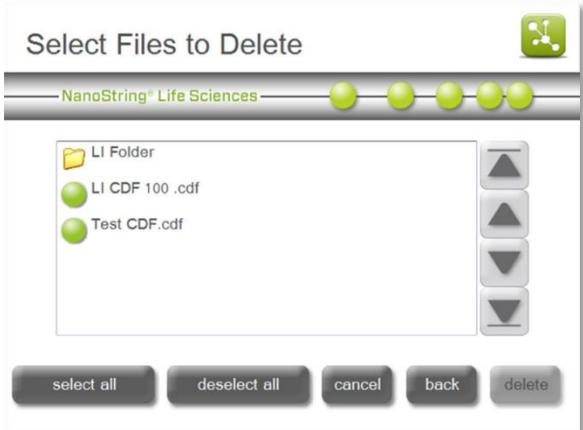

Figure 157: The ‘Select Files to Delete’ screen.
1. To cleanup Cartridge Definition Files, press **CDF** on the ‘Disk Cleanup’ screen. The ‘Select Files to Delete’ screen will appear (**Figure 157**).